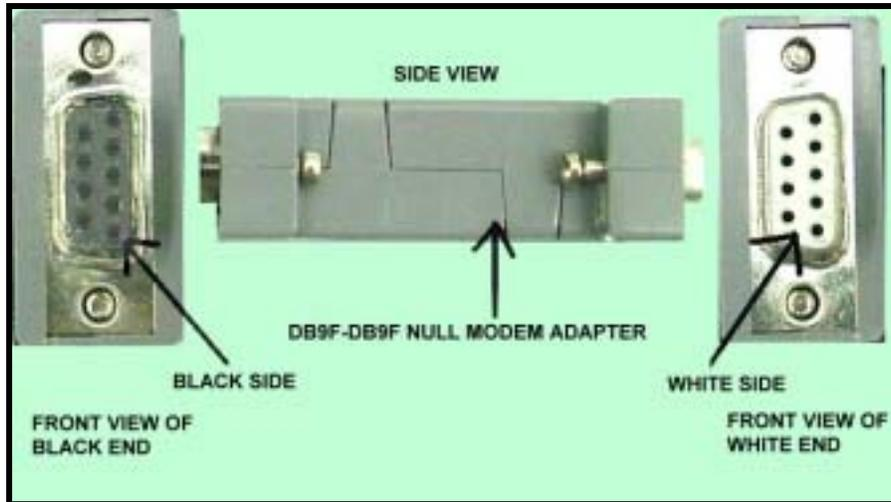

Figure 5: Null Modem Adapter
- 10.1. Refer Figure 5 for DB9 female-to-female null modem adapter. One end is black while the other is white.